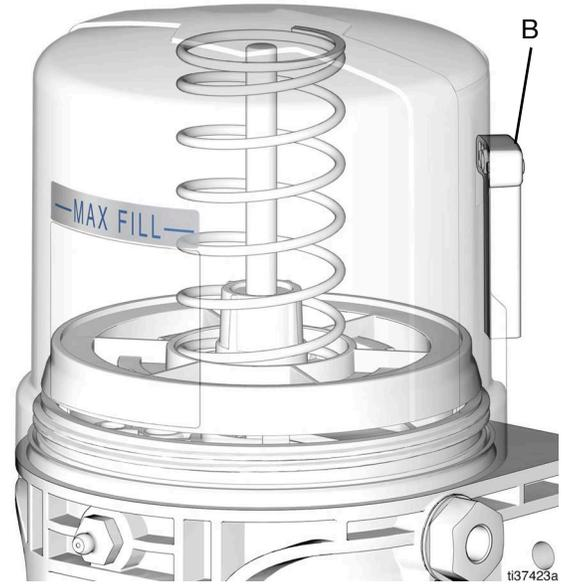

FIG. 18
3. Fill the reservoir with NLGI grease to the MAX line (FIG. 18).
NOTE: The venting tube (B) should not be used as an overfill indicator (FIG. 18).